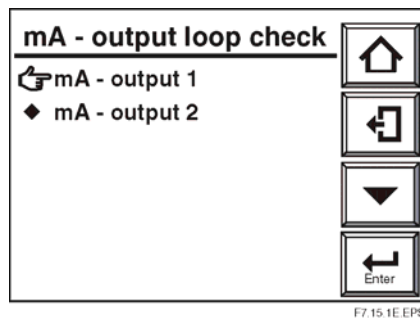

Figure 7-18 "mA-output loop check" Panel Display
2. Select "mA-output loop check" in the Maintenance panel display screen to display the "mA-output loop check" display. Select the desired analog output. See Figure 7-18.